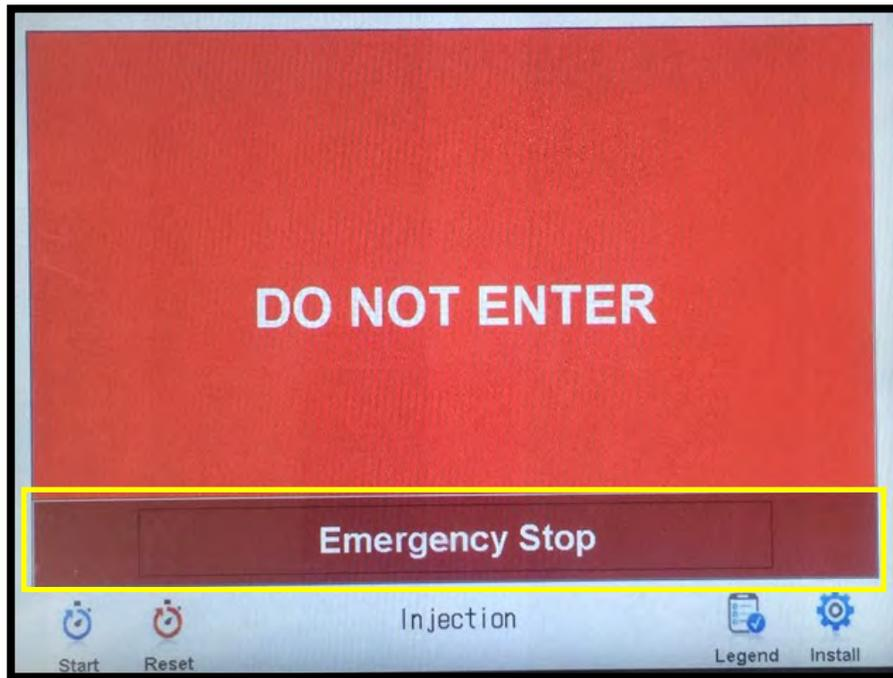

FIGURE 10
- 4.4.4 To initiate an emergency stop, simply press the red "Emergency Stop" bar at the bottom of the Touchscreen Controller (Figure 10).